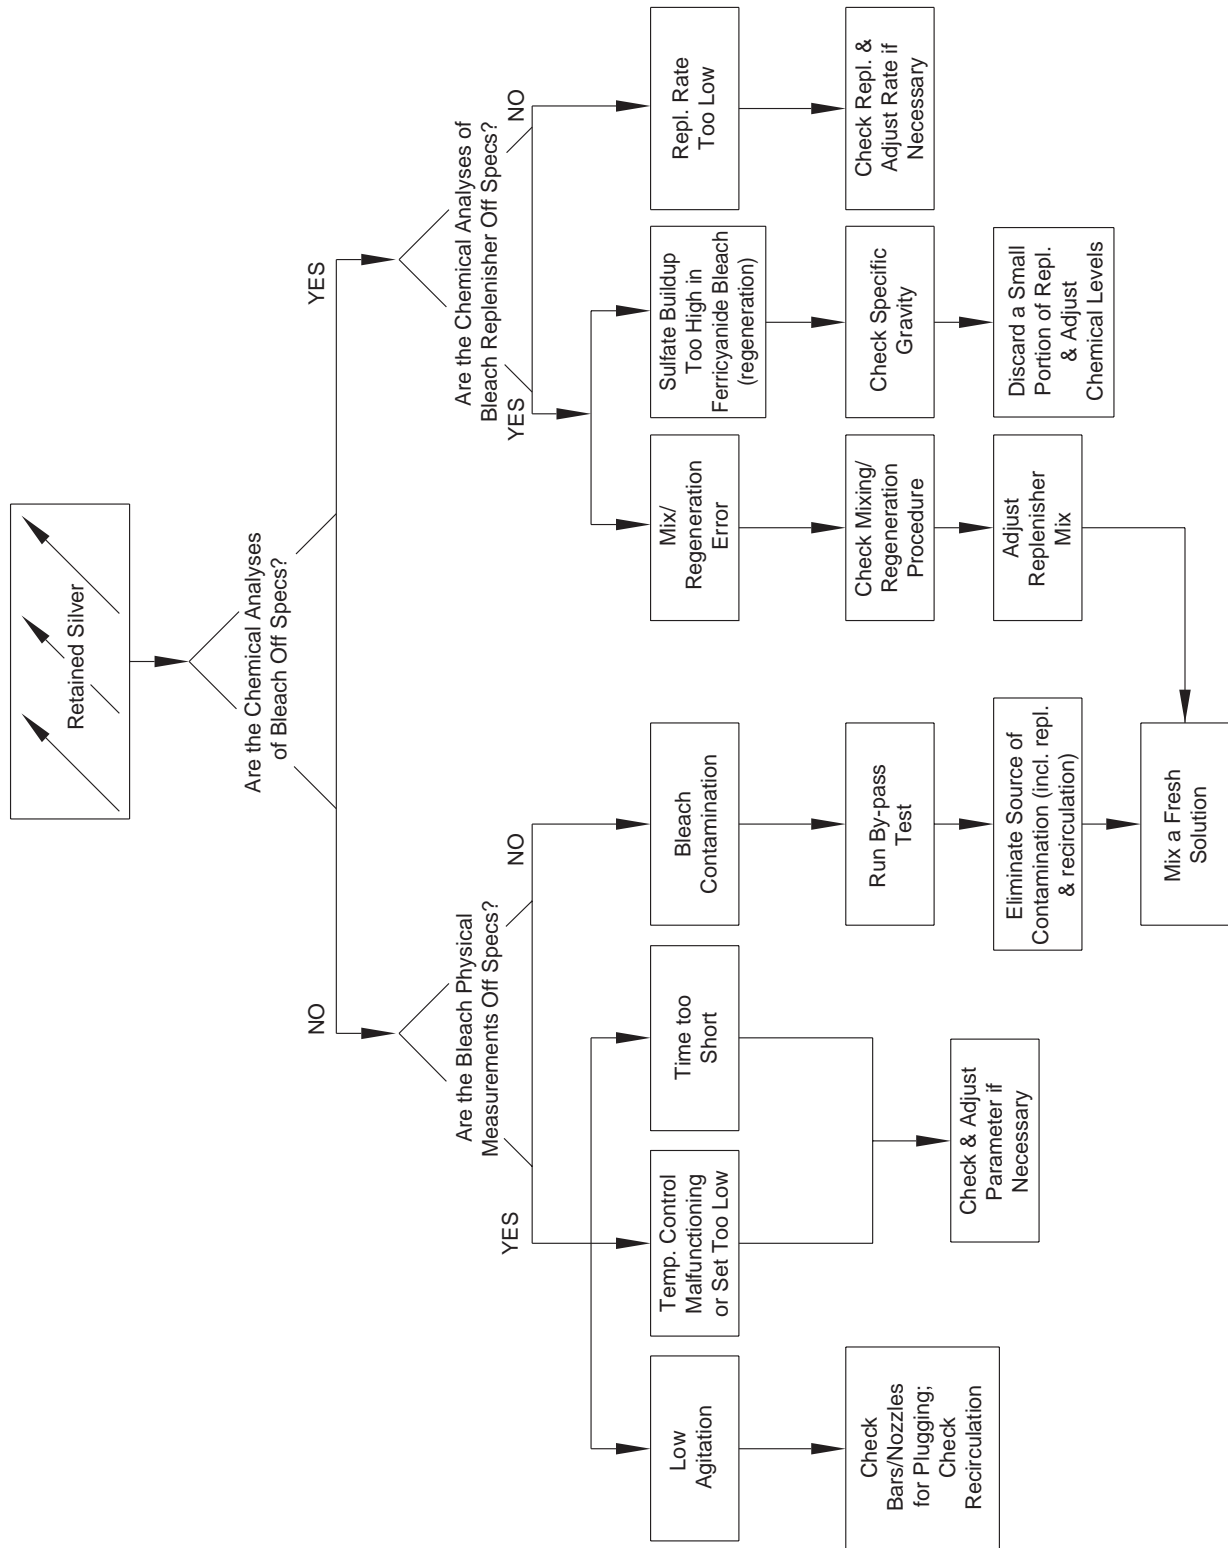

Figure 10-17 Sound Track Process Analysis
- *Sound Track Process Analysis*, Figure 10-17